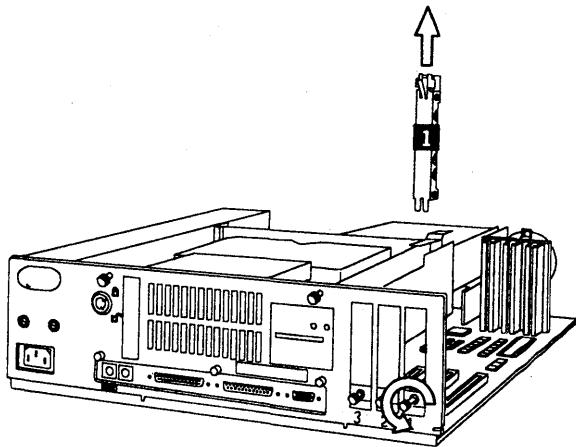

Figure 19: Removing a Slot Cover from the Model 50
7. Locate a vacant expansion slot. Loosen the thumb screw securing its slot cover, and remove the slot cover as shown in Figure 19: